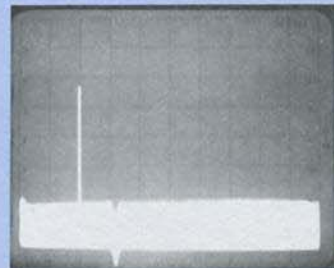

Figure 29B.
10. Connect the OUTPUT of the 8616A signal generator to the INPUT of the 8445B Preselector. Connect the OUTPUT of the 8445B Preselector to the INPUT of the 8555A Spectrum Analyzer. Note that only one signal appears on the CRT instead of three. See Figure 29B.